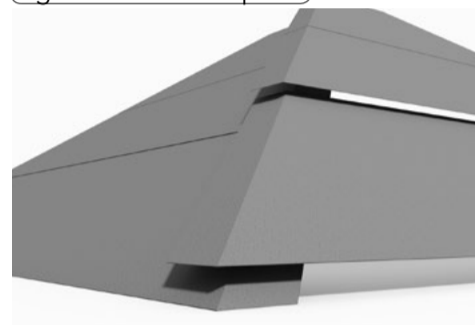

fig 7: Hip laps
8. The Danelaw LR120 should extend over any hips and overlap the underlay on the opposite side of the hip by not less than 150mm beyond the junction line (fig. 7). Alternatively, lay a strip not less than 600mm wide along the length of the hip and over the underlay on either side.